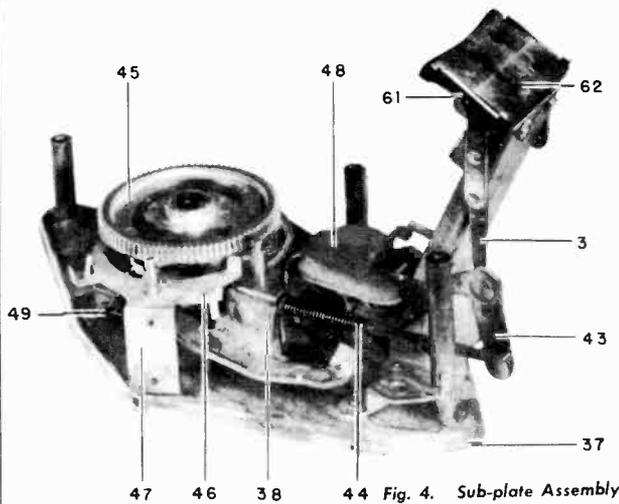

Fig. 4. Sub-plate Assembly
1. Teeth of Main Cam Gear (45). See Figure 4.
2. Channeled undersurface of Main Cam Gear (46). See Figure 4.
4. Pick-up Arm Raising Lever (38). Apply to bearing surfaces. See Figure 4.
In the event that it becomes necessary to replace any of the major parts of the sub-plate assembly (Figure 4), the entire assembly should first be removed from the main plate. Proceed as follows: